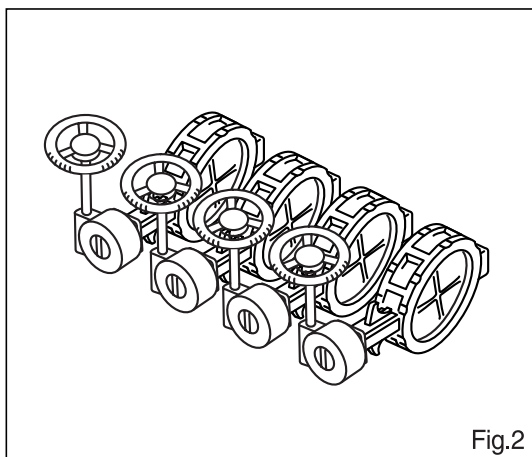

Fig.2
- **Stocking(un-packed)** : When valve to be stored without packing, any excessive force to its actuator part to be avoided. Cover-sheet to be put onto valve at dusty place. (Fig.2)